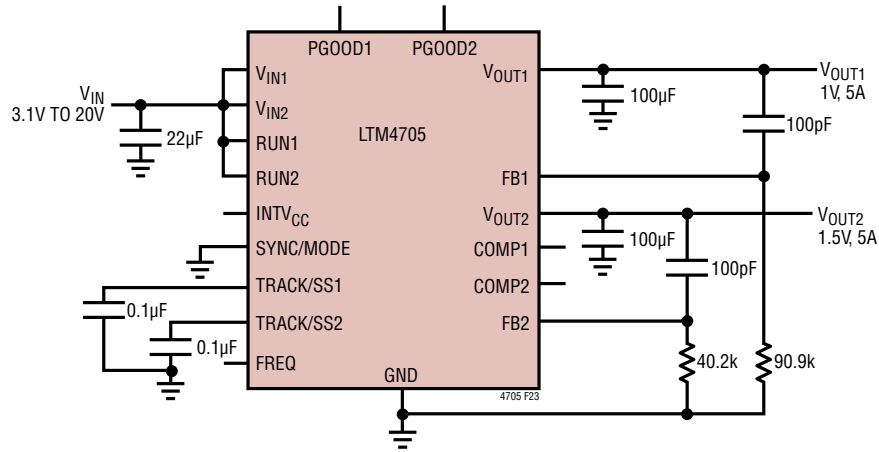

Figure 23. 3.1VIN to 20VIN, 1V and 1.5V Output at 5A Design
**Table 8. Output Voltage Response for Each Regulator Channel vs Component Matrix (Refer to Figure 23)